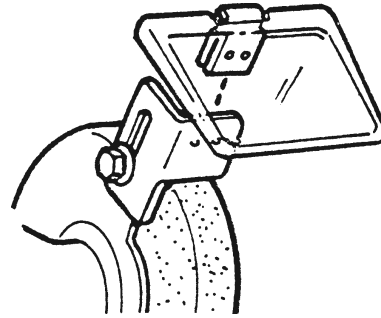

FIGURE 4
- b. Push eye shield bracket onto mounting bracket until it locks into place as shown in Figure 4.